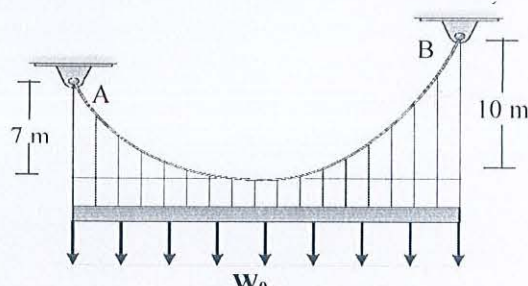

Fig.3
3. A cable is suspended from points **A** and **B** that are $(120 + R)$ m apart horizontally as shown in *Fig.3*. The cable supports the uniform load of $w_0 = (25 + R/10)$ kN/m. Determine the maximum and minimum tension in the cable and location of the lowest point of the cable, where **R**=last two digits of your student No. [10]